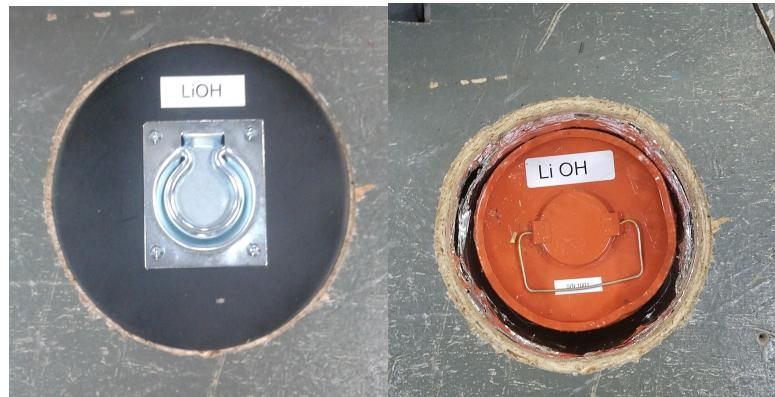

Figure 5. LiOH Canister a) Assembly cover b) LiOH canister
- 10.1 Gather portable anemometer and take readings in m/s of exhaust flow at cabin output vents C/D and D/E (Figures 8 and 9). Hold anemometer (see Figure 5) within an inch of the vent for 20 seconds to gather an accurate reading and record the average reading in Airflow Tracking Spreadsheet.